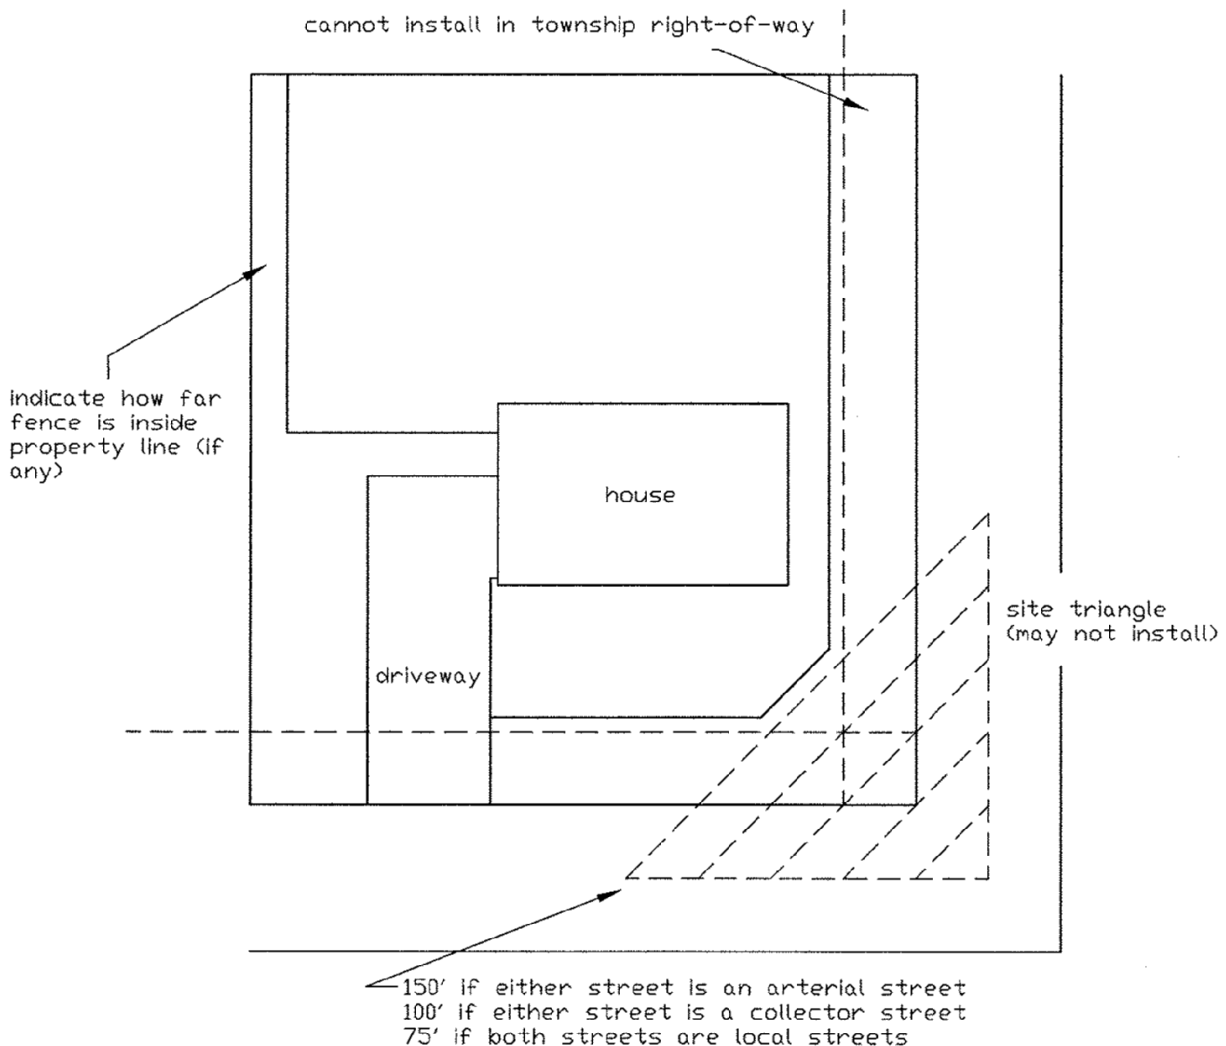

Figure 2
(1) Sight distance at intersections.
- [1] One hundred fifty feet from the intersection of such street center lines, if either street is an arterial street (see Figure 2).
- [2] One hundred feet from the intersection of such street center line if either street is a collector street (see Figure 2).
- [3] Seventy-five feet from the intersection of such street center line if both streets are local streets (see Figure 2).
(2) Sight distance at intersections of driveways or accessways with streets.
- (a) A triangular area as described in Subsection C(1) above shall be graded and shall be kept free of sight obstructions between the ground level and a height of 10 feet above the center-line grade of the intersecting driveway, accessway or street, including structures, nontransparent fences, vegetation and signs (but not including mowed grass, posts of official signs which must be located in the sight triangle because of their function or the trunks of existing trees whose branches are kept clear of the sight triangle). [Amended 12-17-2001 by Ord. No. 2001-311]